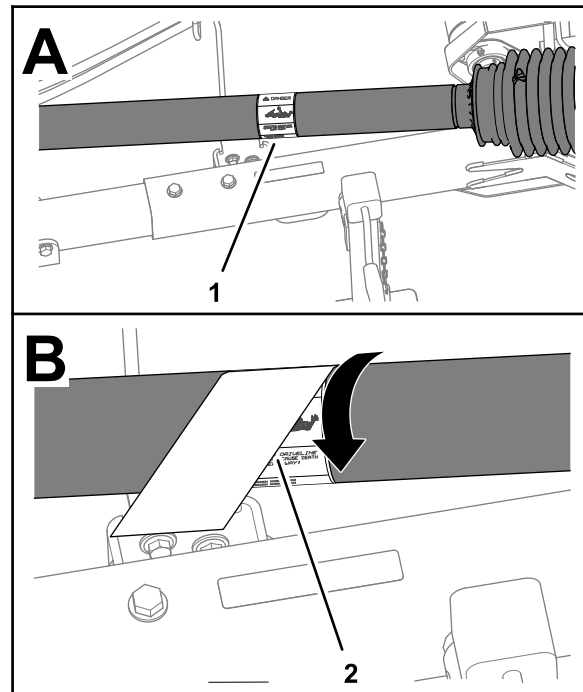

Figure 3
1. Rotate the PTO shaft guard to access the existing entanglement decal (Figure 3).
- Place the CE entanglement decal over the existing entanglement decal (Figure 3).